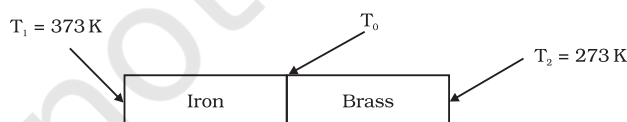

Fig. 10.16
► **Example 10.7** An iron bar ($L_1 = 0.1$ m, $A_1 = 0.02$ m², $K_1 = 79$ W m⁻¹ K⁻¹) and a brass bar ($L_2 = 0.1$ m, $A_2 = 0.02$ m², $K_2 = 109$ W m⁻¹ K⁻¹) are soldered end to end as shown in Fig. 10.16. The free ends of the iron bar and brass bar are maintained at 373 K and 273 K respectively. Obtain expressions for and hence compute (i) the temperature of the junction of the two bars, (ii) the equivalent thermal conductivity of the compound bar, and (iii) the heat current through the compound bar.